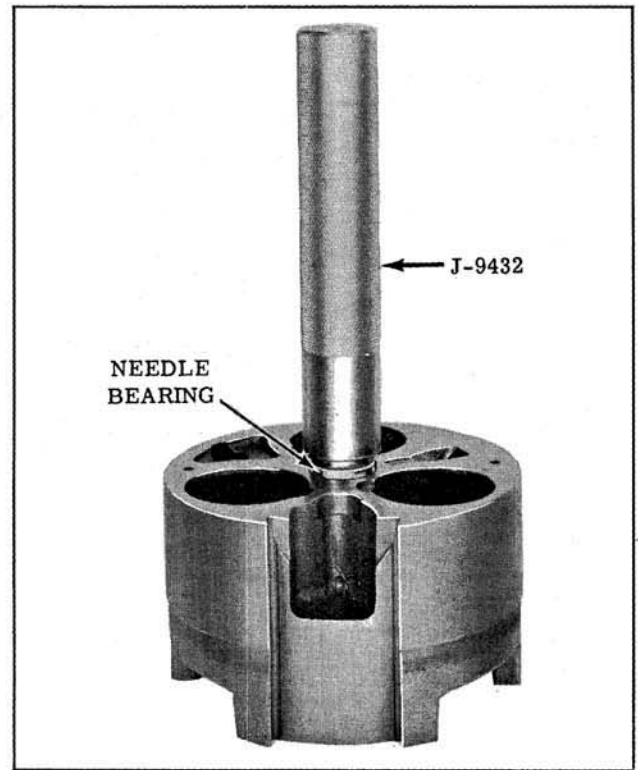

Fig. 14-126 Installing Drive Shaft Bearing
5. If necessary to remove the drive shaft bearing from the rear cylinder half, remove the bearing with a brass drift, then install a new bearing, with manufacturers name towards tool, as shown in Fig. 14-126.